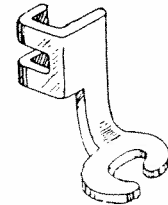

Fig. 38
1. Remove hinged presser foot and attach button sewing foot. See Fig. 38.